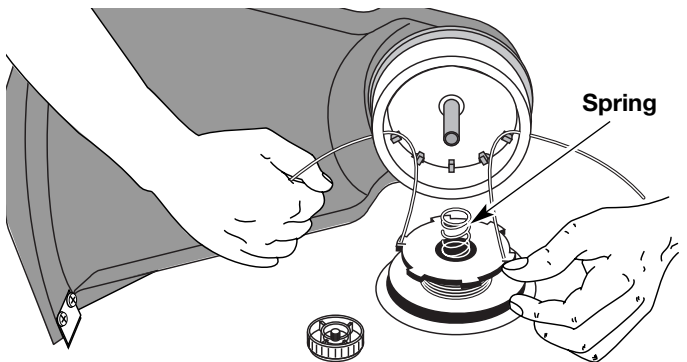

Fig. 18
11. Insert the ends of the line through the eyelets in the outer spool and place inner reel with spring inside the outer spool (Fig. 18). Push the inner reel and outer spool together. While holding the inner reel and outer spool, grasp the ends and pull firmly to release the line from the holding slots in the reel.
5. Insert the ends of the line through the eyelets in the outer spool (Fig. 18).